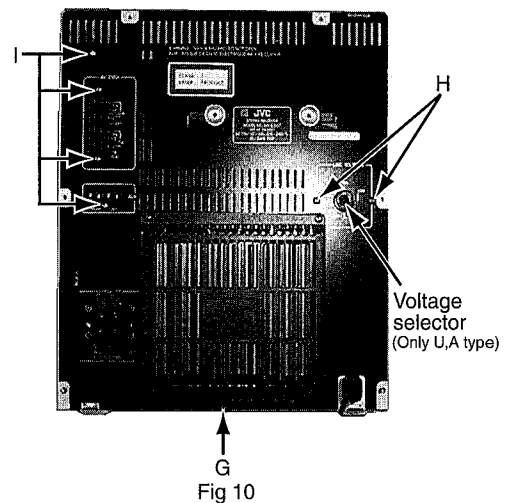

Fig 10
8. Remove the two screws H fastening the voltage selector of the rear panel. (Only U,A type) (See Fig 10)
- 6.Remove the voltage selector.(See Fig 10)